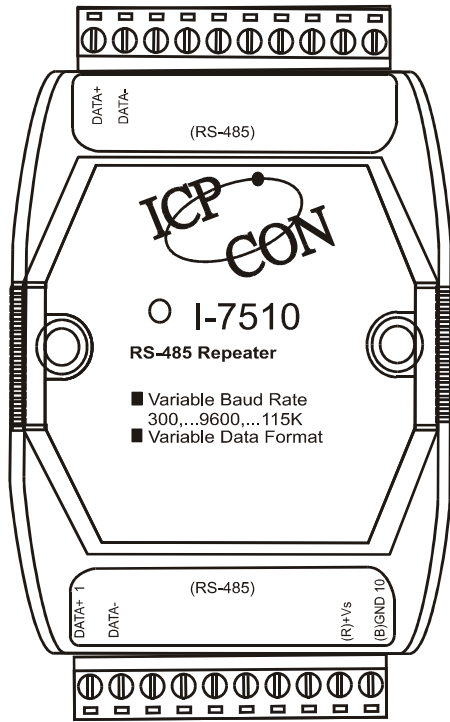

Fig 24
For example, the ④7510, ⑤7510, ⑥7510 in Fig 22 are used to isolate local modules from ①RS-485 network. If there is high energy transient on ①RS-485 network, all the local modules will be safe. Therefore we strongly recommend the user to select isolated connections, refer to Fig 24.